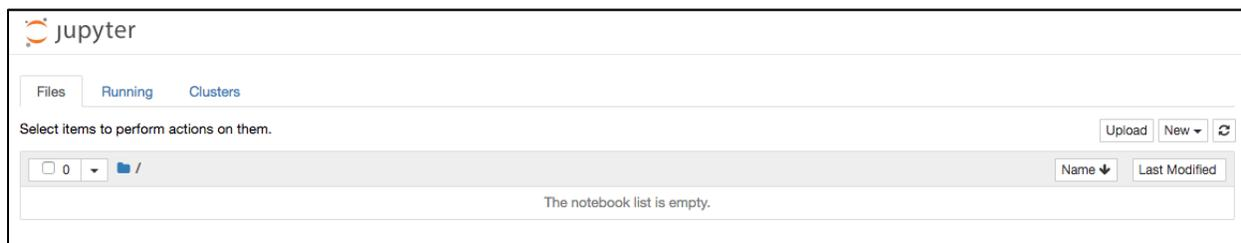

Figure 12
3. You will see something like Figure 12.